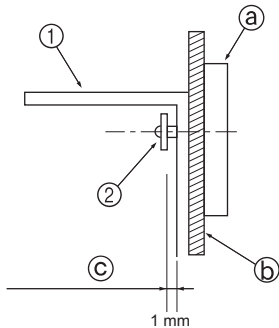

Fig. 3-4
- First, mount the bracket on the wall and then tighten the screw so that the bracket can slide up and down. (Fig. 3-4)
- ① Tip-over prevention bracket
- ② Tapping screw
- ④ Wall surface material
- ③ Gap of about 1 mm